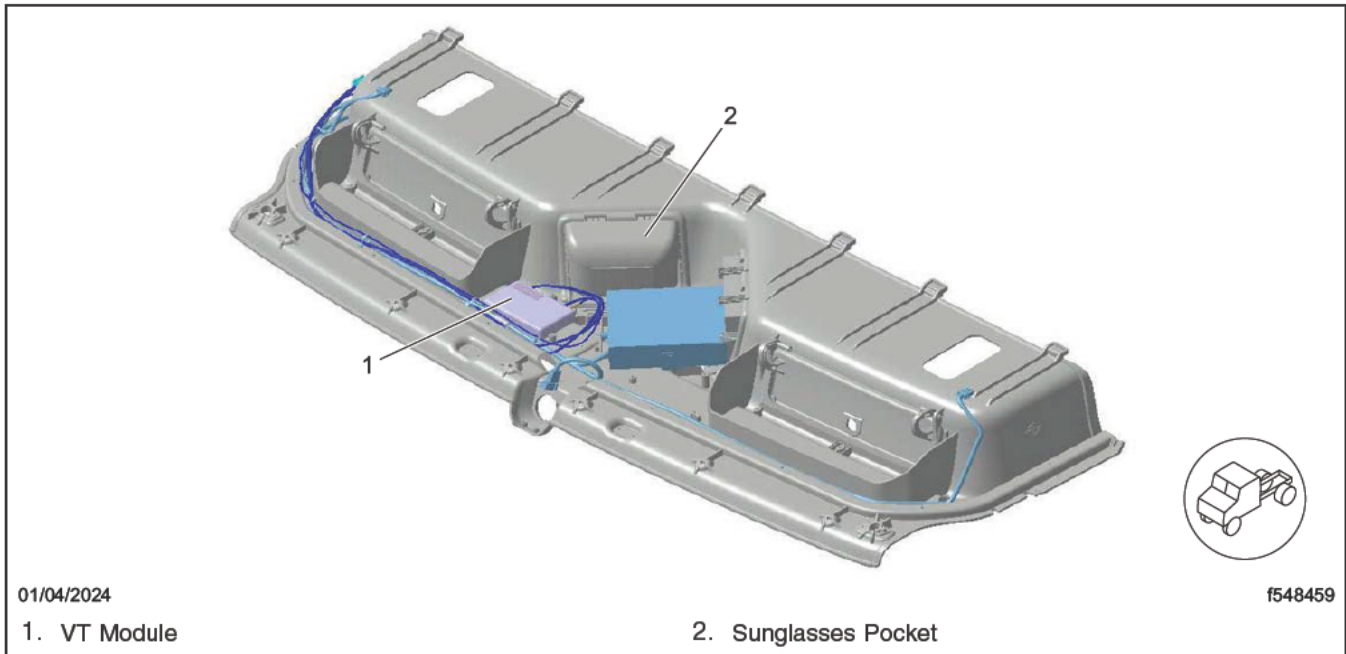
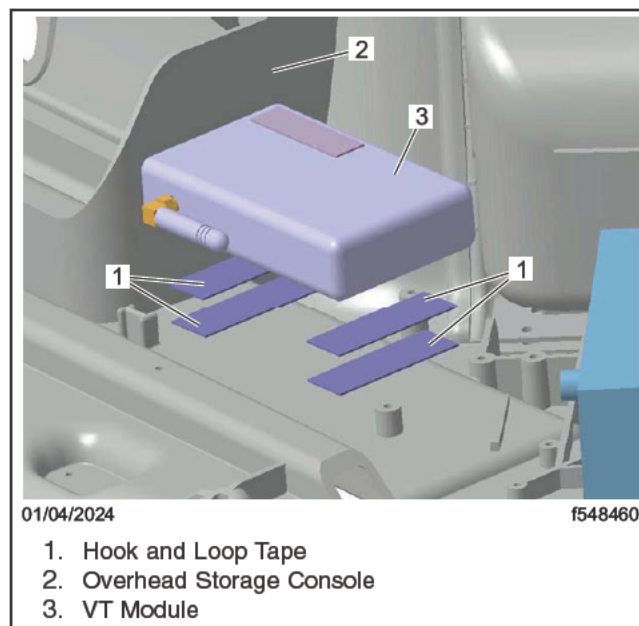

Fig. 14, VT Module Installation in the Overhead Console
Fig. 15, VT Module Installation
4. Use hook and loop tape to install the VT Module on the overhead console in the location shown in Fig. 14 and Fig. 15.